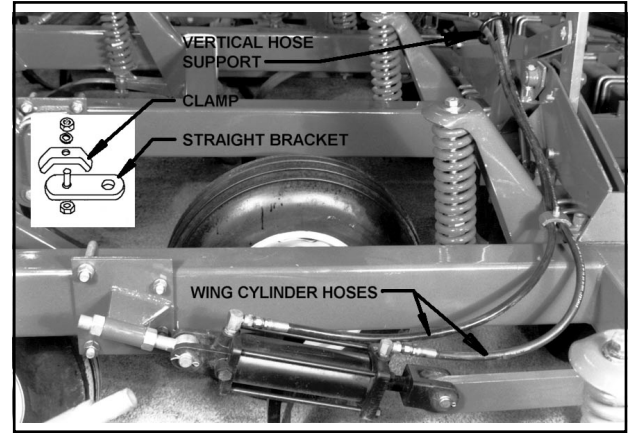

Figure 3-35 - Front of RH Wing
- g. Attach straight bracket to U-bolt at end of wing hinge. Fasten cutter frame lift cylinder hoses to bracket with clamp and 3/8" x 2" cap screw, lock washer and nut (See Figure 3-35).